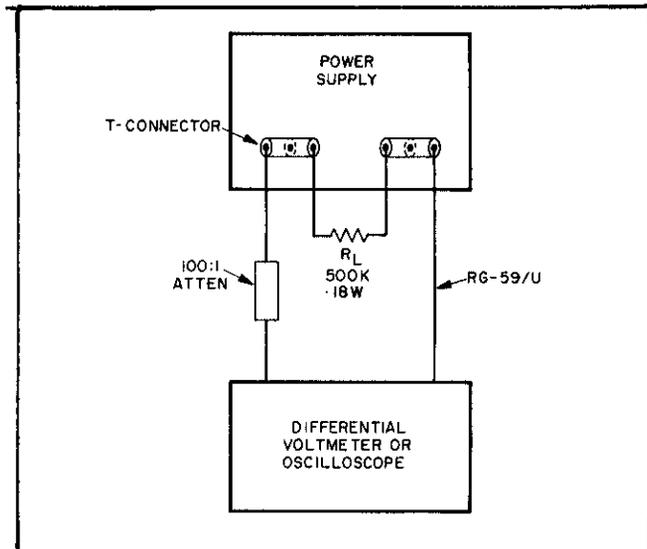

Figure 5-3. Line and Load Regulation, Test Setup
- Connect the differential voltmeter, load resistor, and the attenuator to the power supply as illustrated in Figure 5-3. Load resistance is approximately 500K ohms, 18 watts.
- Connect differential voltmeter, load resistor and attenuator to the power supply as illustrated in Figure 5-3.
- Connect differential voltmeter, load resistor, and attenuator as illustrated in Figure 5-3.
a. Connect the load resistance, attenuator, and differential voltmeter as illustrated in Figure 5-3.